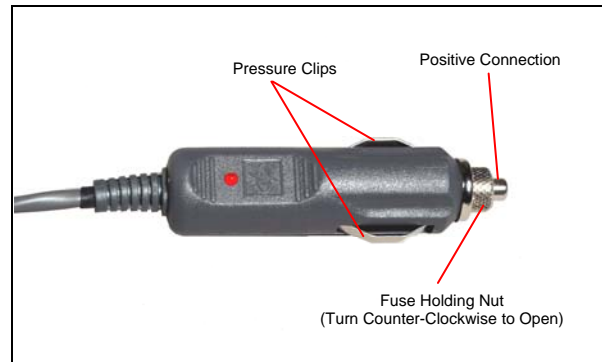

Figure 13. SeeGull MX Scanning Receiver Power
2. If the connection is secure, check the fuse, which is located in the cigarette lighter end of the power cord. Remove the cigarette lighter plug end from the power source. Refer to *Figure 13* for an illustration of the power plug.